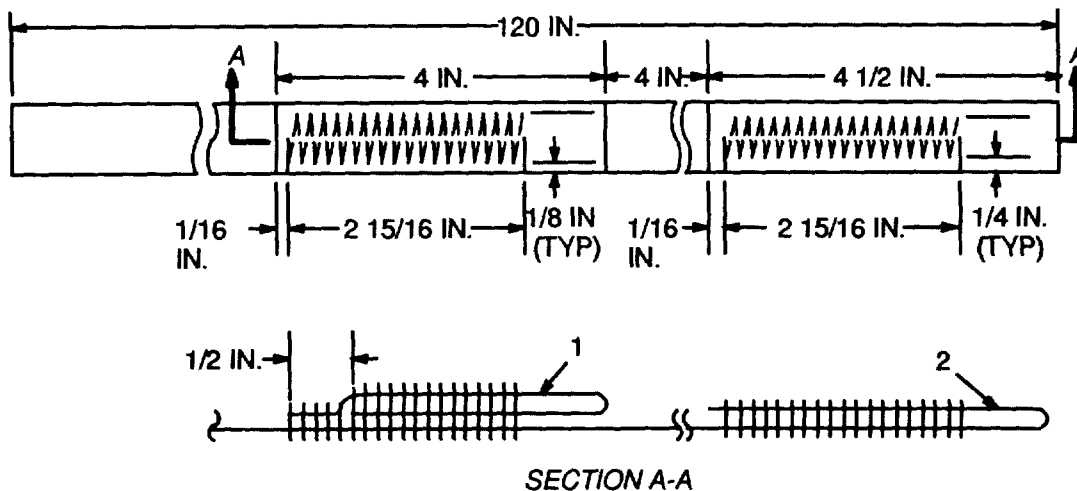

Figure 2-13. Typical Arming Wire Lanyard Construction Details.
3. REPLACE AN UNSERVICEABLE ARMING WIRE LANYARD BY FABRICATION (FIGURE 2-13).
- d. Form the arming wire attaching loop (1) on the webbing length by folding the marked end of the webbing back at the 4 1/2-inch (11.4-cm) mark.
- e. Using a ZZ sewing machine stitching 7 to 11 stitches per inch (3 to 4 stitches per cm), secure the webbing fold-back. Beginning at the 3-inch (7.6-cm) mark, stitch a 2 15/16-inch (7.5-cm) long row of 1/4-inch (0.6-cm) wide double throw zigzag stitching toward the fold-back seared end according to the details in Figure 2-13. End the stitch row at a point 1/6 inch (.4 cm) back from the fold-back seared end.
- g. Form the safety tie loop (2) by doubling the webbing length at the 4-inch (10.2-cm) mark, allowing one end to overlap the opposite end by 1/2-inch (1.2-cm).